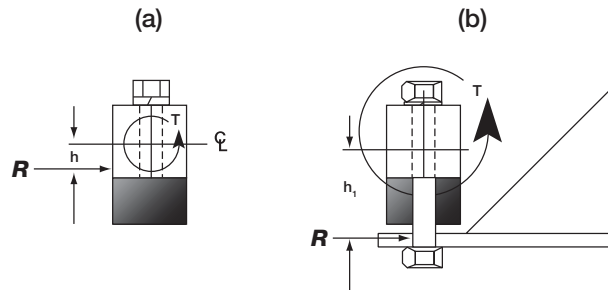

Figure 4-5. Twisting Loads
Typically, a side force does not act exactly at the neutral axis and hence produces a torque or twisting effect in addition to the side force. A load cell can be subjected to a torque (T) in a number of ways. Figure 4-5(a) illustrates a condition where the line of action of a side force is moved away from the neutral axis by a distance h resulting in a torque of Rh . Figure 4-5(b) illustrates a situation where the load is hung from the cell using a bolt. Any side force applied by this arrangement has a much larger twisting effect on the cell because of the increased distance h_1 to the neutral axis.